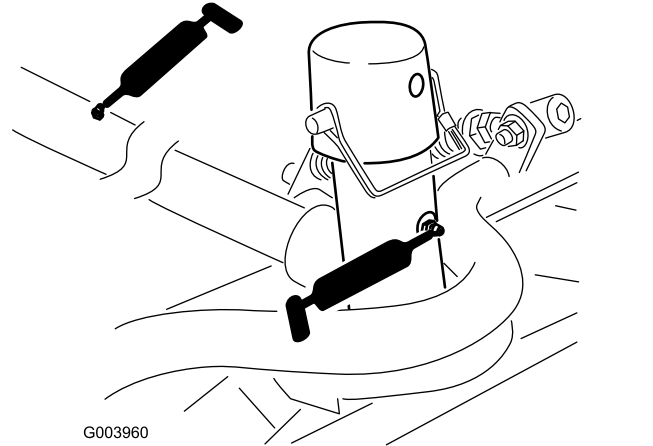

Figure 108
- Cutting-unit carrier-frame and pivot (2 each) (Figure 108)